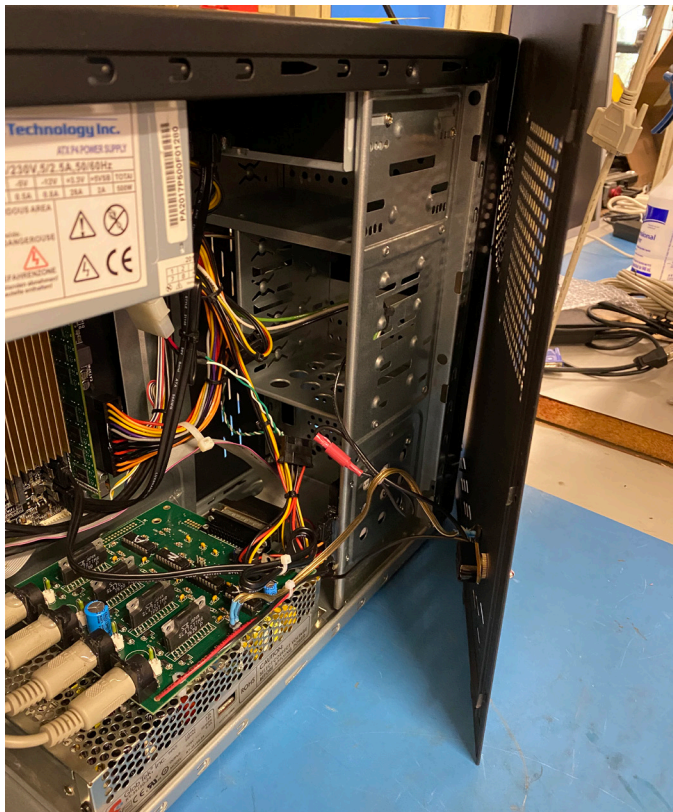

FIGURE 3
2. Place the panel to the side. Away as far as the power switch wires will allow (see Figure 3).